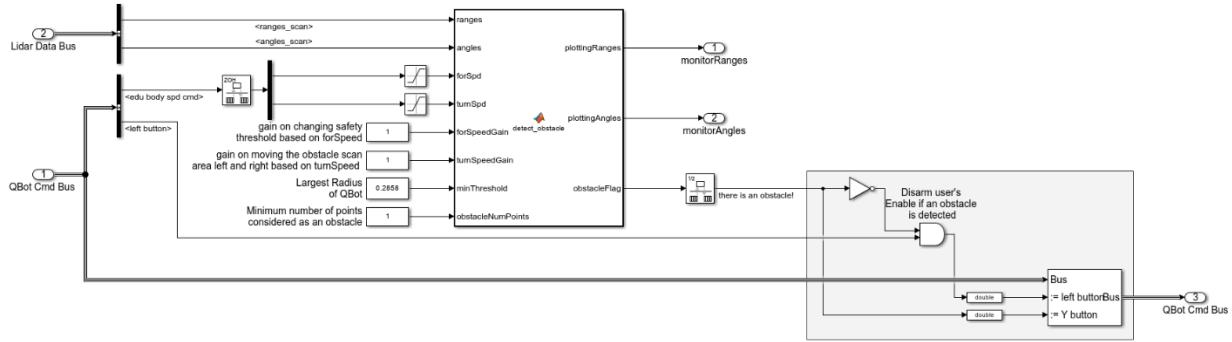

Figure 5. Obstacle Detection via Lidar block
1. Go back to the main Simulink model and open **Obstacle Detection via Lidar** subsystem, as shown in Figure 5. This subsystem uses the LiDAR measurement to determine when the QBot should stop to avoid collision with an obstacle. In this lab, you will implement a simple obstacle detection algorithm using the **MATLAB Function** block labeled **detect\_obstacle**.